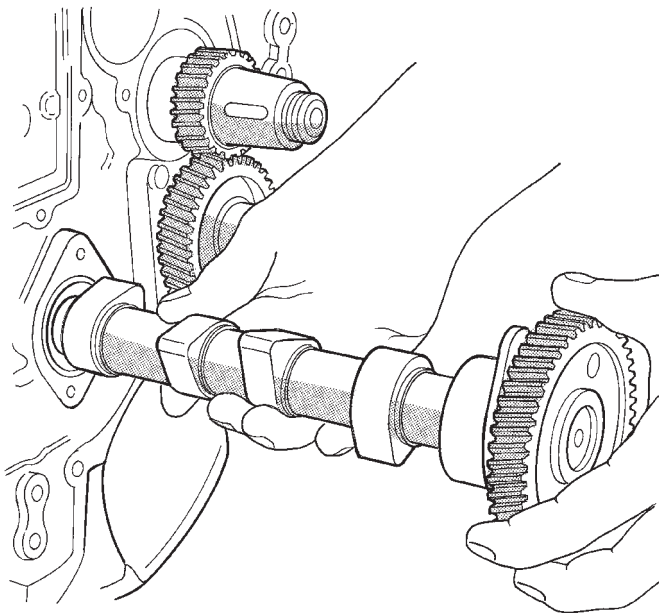

Fig. 43 Camshaft Removal
- (13) Unscrew the flange bolts and remove camshaft (Fig. 43).